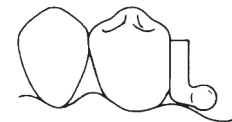

Fig. 4
4. When positioning the male, the base should be in light contact with the model with the ball slightly off the tissue (Fig. 4). This is not always possible depending on the placement of the margin and the contour of the tissue. If there is space between the male and the tissue it will be blocked out later.